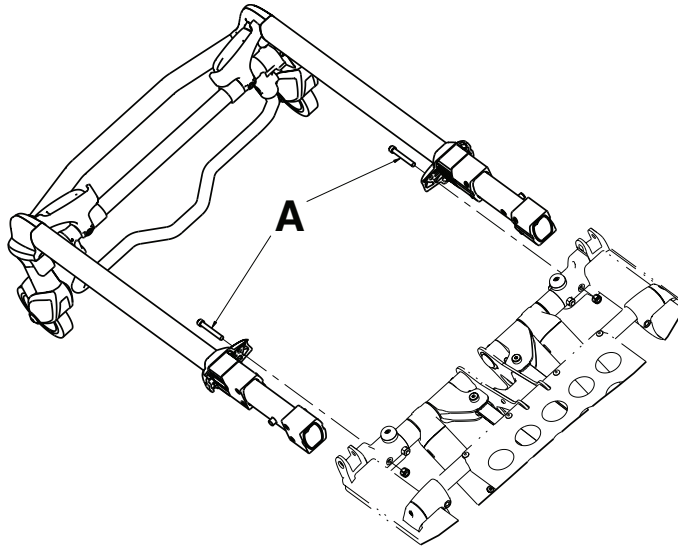

Figure 6 – Head section
2. Using a 7/16" combination wrench and a 3/16" hex wrench, remove the two screws (A) that secure the cap bearings to the base litter interface bracket (one on each side) (Figure 6). Save the screws.